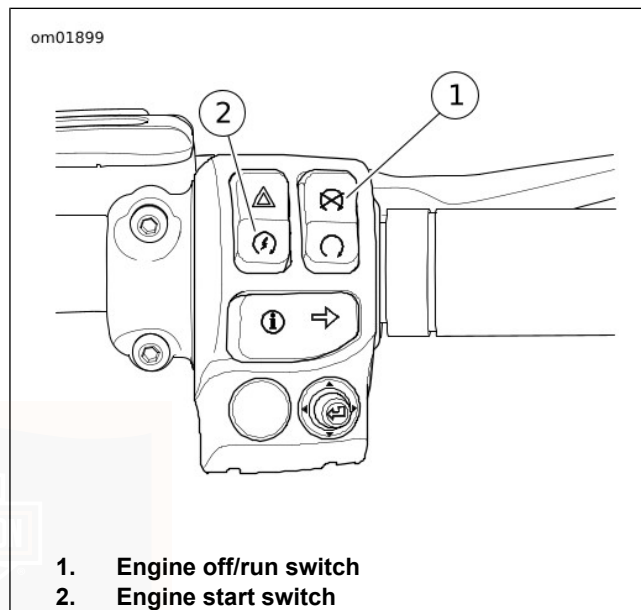

Figure 42. Right Handlebar Controls
2. Set the OFF/RUN switch to the RUN. See Figure 42.